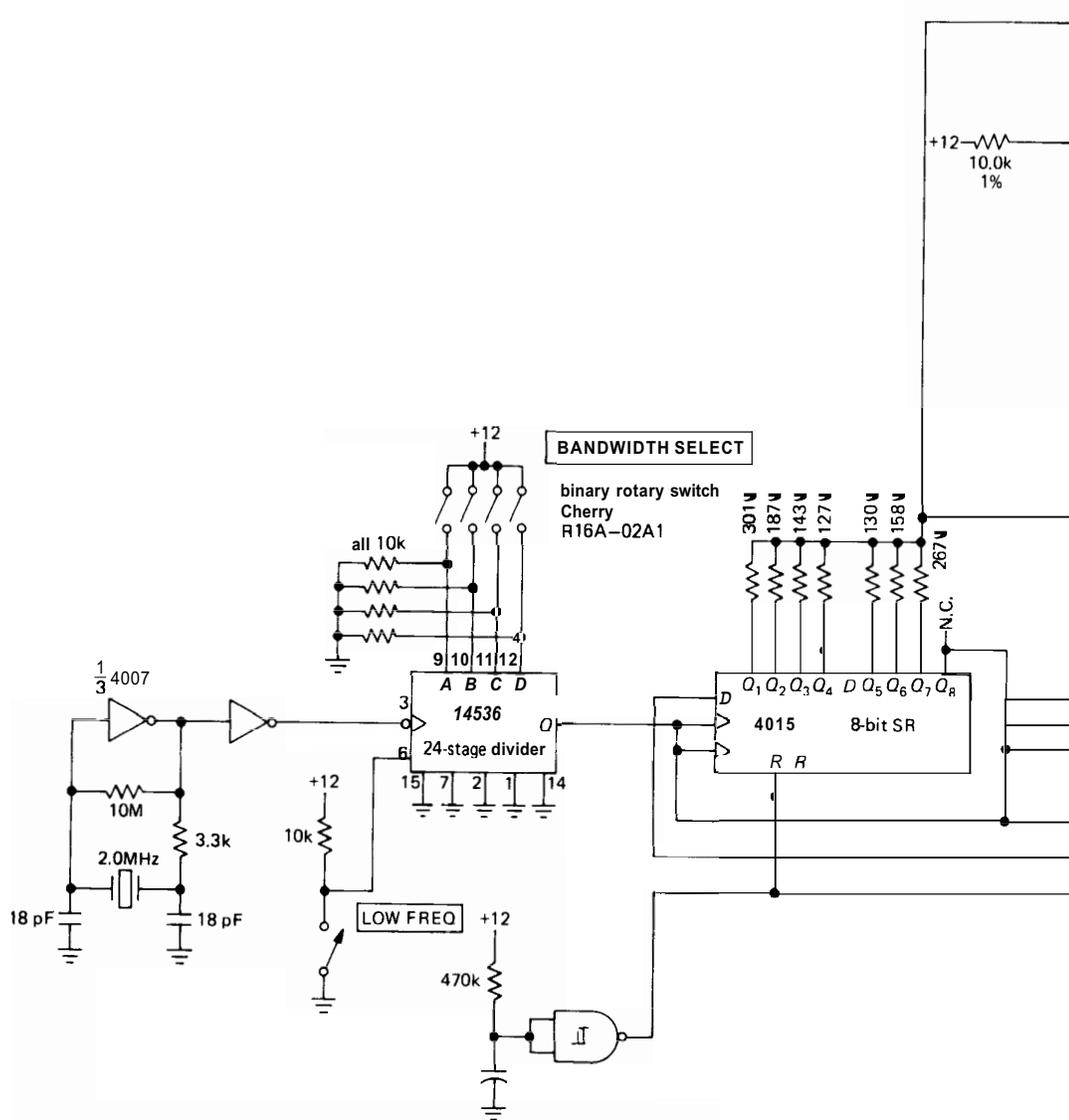

Figure 9.90. Wide-frequency-range laboratory noise source.
The circuit in Figure 9.90 generates pseudo-random analog noise, with bandwidth selectable over an enormous range, using this technique. A 2.0MHz crystal oscillator drives a 14536 24-stage programmable divider, generating clock frequencies going from 1.0MHz down to 0.12Hz by factors going from 1.0MHz down to 0.12Hz by factors of 2. A 32-bit shift register is connected with feedback from stages 31 and 18, generating a maximal-length sequence with 2 billion states (at the maximum clock frequency the register completes one cycle in a half hour). In this case we have used a  $(\sin x)/x$  weighted sum over 32 successive values of the sequence.  $U_1$  and  $U_2$  amplify the inverted and non-inverted terms, respectively, driving differential amplifier  $U_3$ . The gains are chosen to generate a 1.0 volt rms output with no dc offset into a 50 ohm load impedance (2.0V rms open circuit). Note that this noise amplitude is independent of the clock rate, i.e., the total bandwidth. This digital filter has a cutoff at about  $0.05f_{\text{clock}}$ , giving a white noise output spectrum extending from dc to 50kHz (maximum clock frequency) down to dc to 0.006Hz (minimum clock frequency), in 24 steps of bandwidth. The circuit also provides an unfiltered output waveform, going between +1.0 volt and -1.0 volt.
Figure 9.90 cont.
3. Verify that the peak output of the pseudo-random-noise generator (Fig. 9.90) is  $\pm 8.68$  volts.